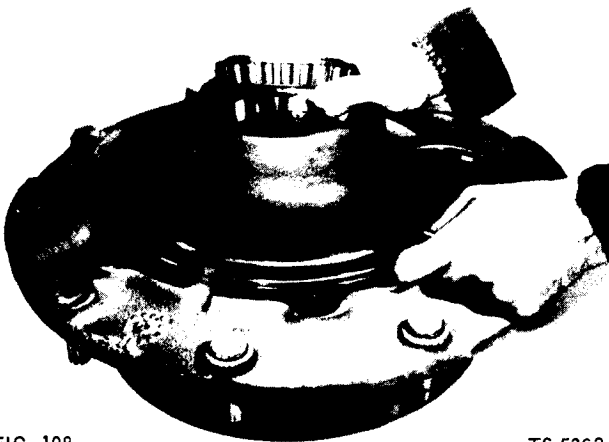

FIG. 108
2. Lubricate inner wheel hub bearing cone with gear oil and position in wheel hub bearing cup (Fig. 108).